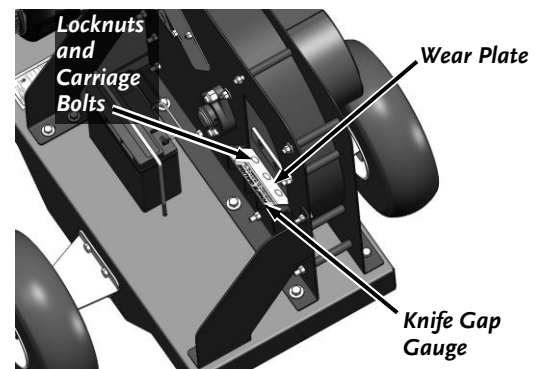

Figure 5
1. Loosen the three Locknuts on the Carriage Bolts enough to remove the Knife Gap Gauge (**Figure 5**).